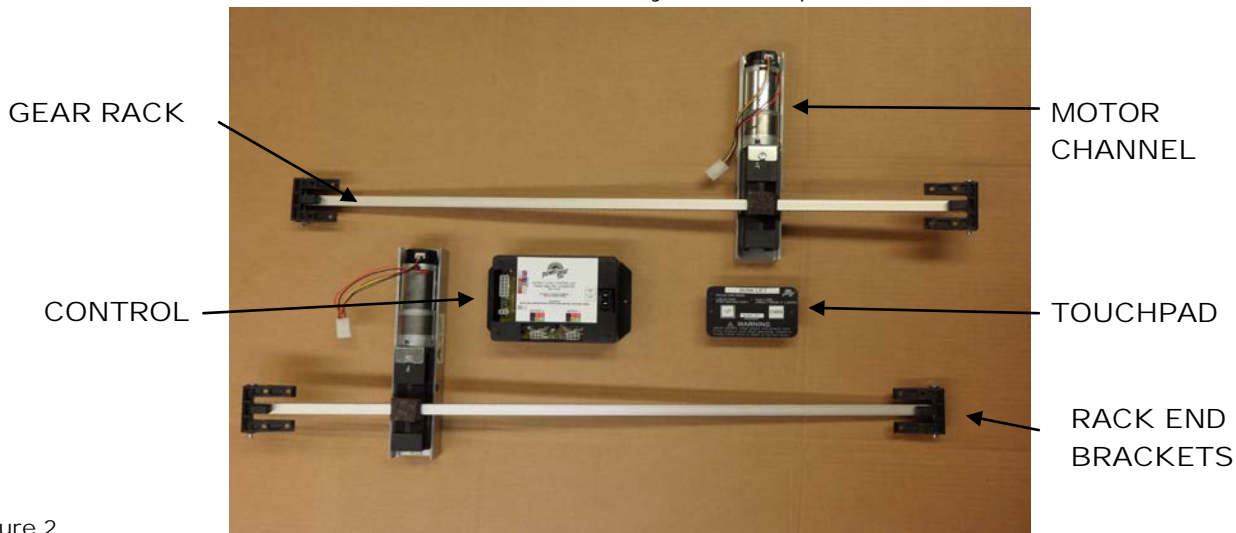

Figure 2
1. See **Figure 2** above for components of the bunk lift system. Harnesses not shown.